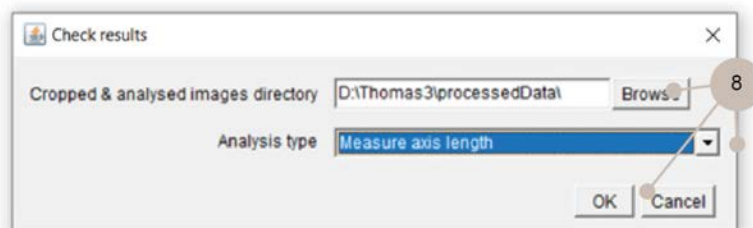

Figure 4.11. The check results menu
**STEP 8.** In order to ensure precise analysis, when opting to save ROIs, you can utilize the "Start checking results" feature in the main meiosis bar (fig. 0). This will bring up the "Check results" menu (refer to figure 4.11). If you ran the macro, both the right images folder and tool are automatically displayed. However, if you wish to oversee the results of the macro later on, you should adjust both the folder and select the "Measure axis length" analysis type.